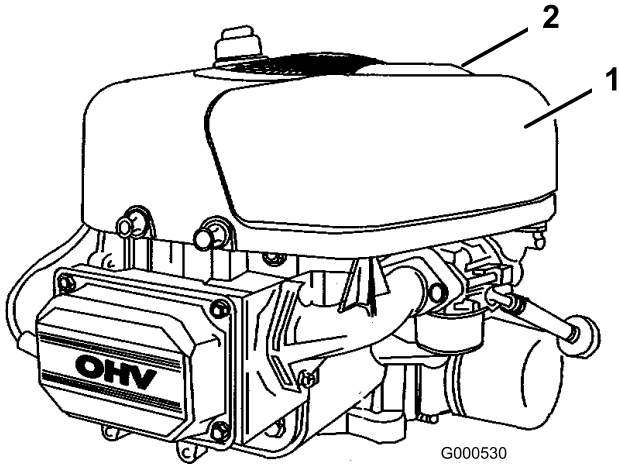

Figure 30
4. Clean around the air cleaner to prevent dirt from getting into the engine and causing damage. Pull up on the air cleaner cover handle and rotate it toward the engine (Figure 30). Remove the air cleaner cover.